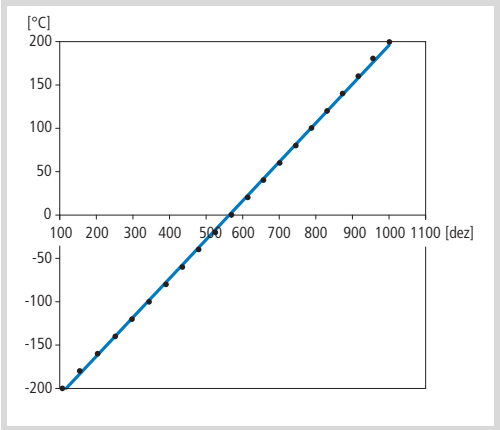

Figure 22: Pt100 calibration curve for XC121
1) Assigned temperature values → fig. 22